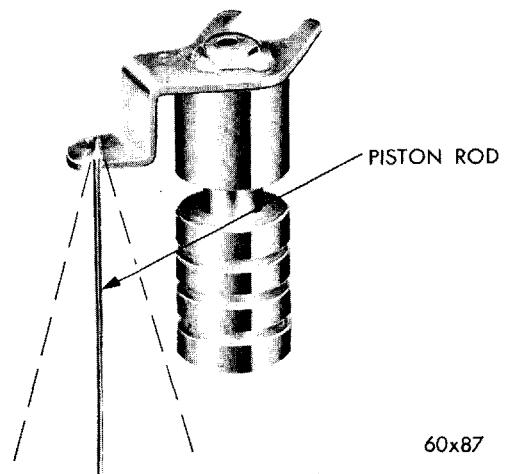

Fig. 13 — Step-up Rod Free Play
(14) Before installing the step-up piston, be sure the step-up rod is able to move freely each side of the vertical position, as shown in Figure 13. The step-up rod must be straight and smooth.